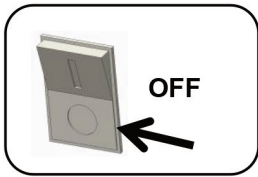

Fig. 1
1. Turn off the power to the luminaire. **(Fig. 1)**